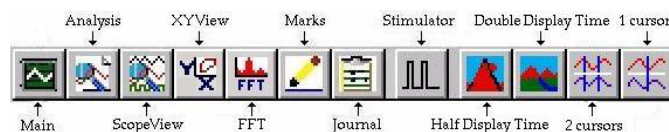
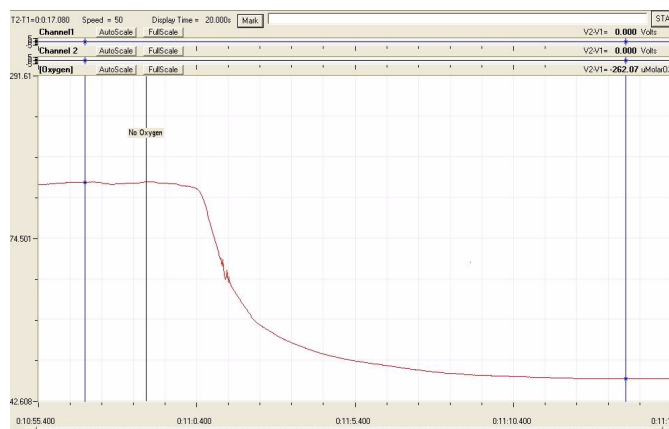

Figure GB-3-2: The **LabScribe toolbar**.
Figure GB-3-3: Recording used to convert units of the Y-axis from voltage to O₂ concentration (μMolar).
on the same window, it may be necessary to click either of the **Display Time icons** in the **LabScribe toolbar** (Figure GB-3-2 on page 3).
- Click the **2-Cursor icon** (Figure GB-3-2 on page 3) so that two blue vertical lines appear over the recording window. Place one cursor on the left side of the plateau corresponding to the oxygen concentration in air-saturated deionized water. Place the other cursor on the right side of the plateau corresponding to the oxygen concentration in the zero-percent oxygen calibration solution (Figure GB-3-3 on page 3).
- 1 Locate the section of the recording where output of the pH electrode was measured in pH 4 and pH 7 buffers. To view this section of the recording in its entirety on the same window, it may be necessary to click either of the **Display Time icons** in the LabScribe **toolbar** (Figure GB-3-2 on page 3).
- 2 Click the **2-Cursor icon** (Figure GB-3-2 on page 3) so that two blue vertical lines appear over the recording window. Place one cursor on the plateau recorded while the pH probe was in pH 7 buffer. Place the other cursor on the plateau recorded while the pH probe was in pH 4 buffer.